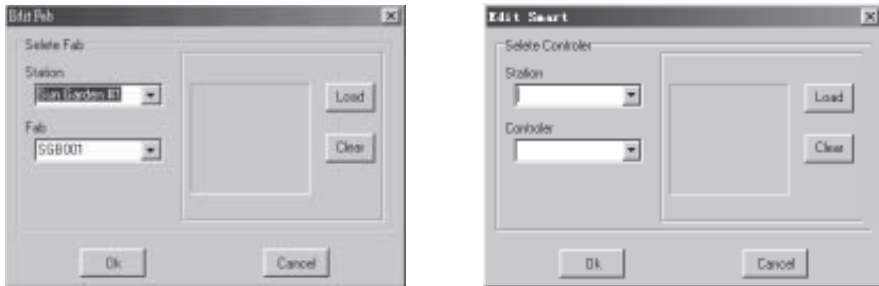

**Fig. 4-30 Connect the Input and Output of Animated Picture and FAB**
Similarly, you may select the other diagrams, here we will omit the detailed procedure. When you select the **Image** option, as in Fig. 4-30, you may insert the **BMP picture files**.
3. Select and click **Link**, the system will display the dialogue frame as in Fig. 4-30. Select the FAB I/O Port of the working station that actually corresponds to the exhaust fan and then click **Confirm**. The animated picture insertion and interconnecting is then complete. When the exhaust fan is running normally, the required operating conditions being satisfied, its state will be transferred in real-time to the monitoring system. It will be shown in the designed animated pictures. With this function you may observe the running state of any equipment graphically.